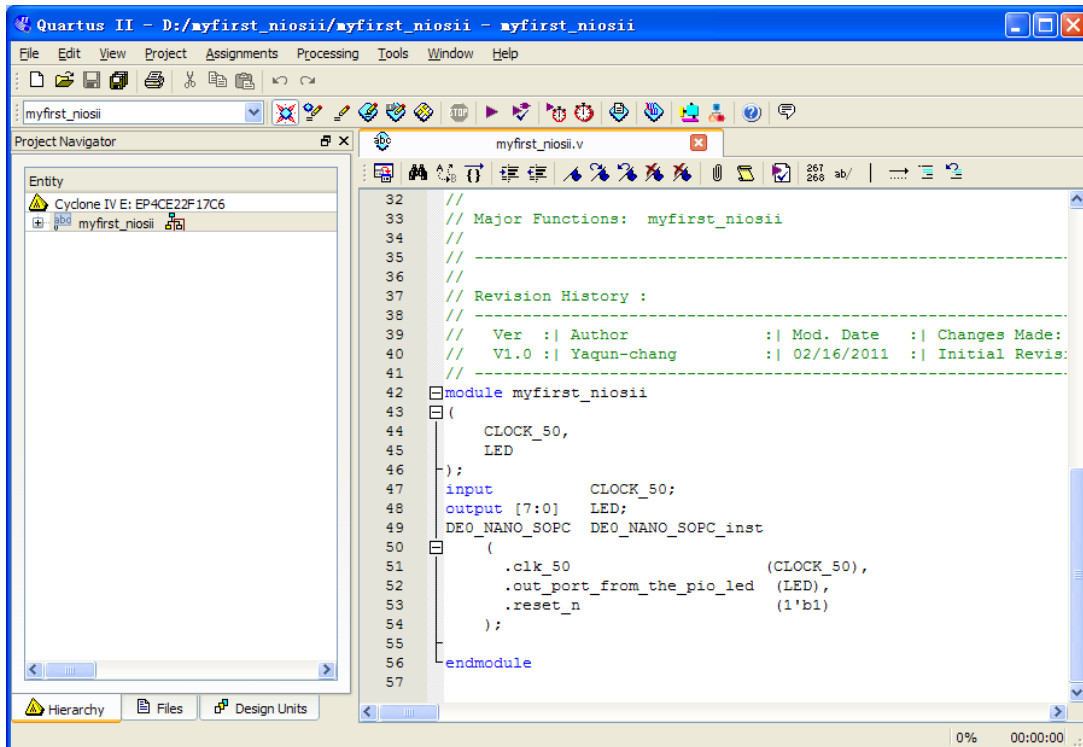

Figure 7-43 Input verilog Text
34. Type the following Verilog into the blank file, as shown in **Figure 7-43**. The module **DE0_NANO_SOPC** is the system created by SOPC Builder and its Verilog can be found in the **DE0_NANO_SOPC.v** file, as shown in